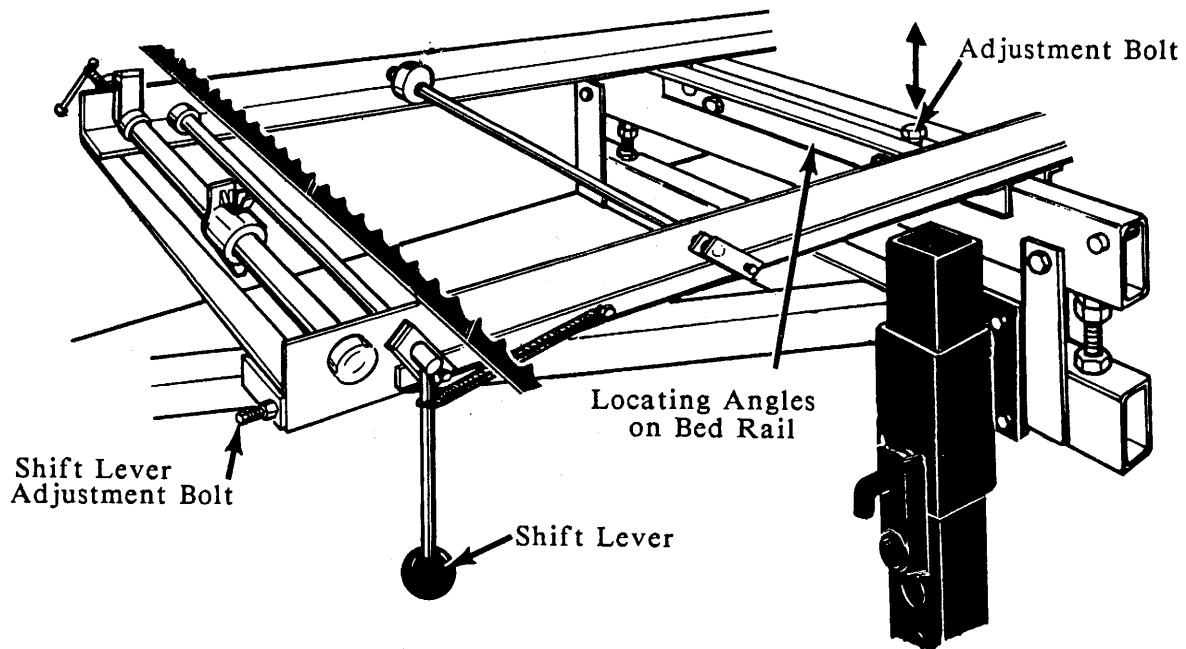

FIGURE 1
1. Place the Shingle/Lap siding option on the mill bed with the locating angles around the bed rails (See Figure 1). The shift lever should be at the front end of the mill. Make sure option frame is lying flat on bed rails.
2. When using the option to cut shingles, or as a resaw brace, you will need to align the frame parallel to blade. To do this, move the blade carriage over the front bed rail and lower until the blade touches the frame. Use the adjusting bolt, if necessary, to level the frame to the blade (See Figure 1). Repeat over rear bed rail.